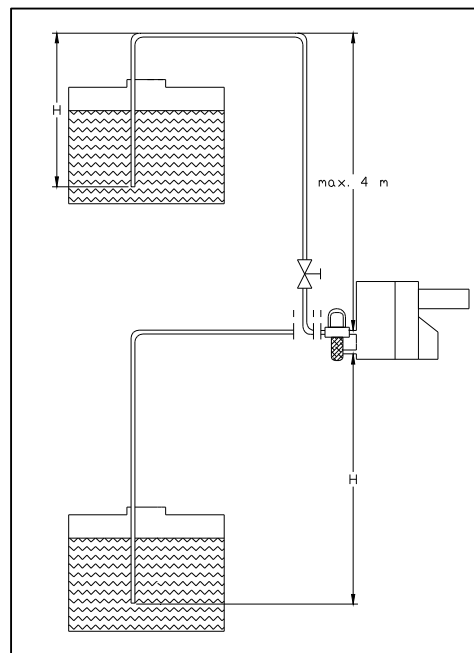

Figure 12
1. Remove the burner cover (1);
2. Connect the oil pump (2) to the oil-filter (3), using the included fuel hoses. Make sure that the flow directions on the pump comply with those on the filter.
4. Connect the plug (4) from the boiler to the burner.
**Hint:** When the oil tank is situated below the boiler or when the oil supply line comes from below the boiler, it is advisable to use a self bleeding oil filter. This prevents unnecessary malfunctioning of the burner (see figure 12).